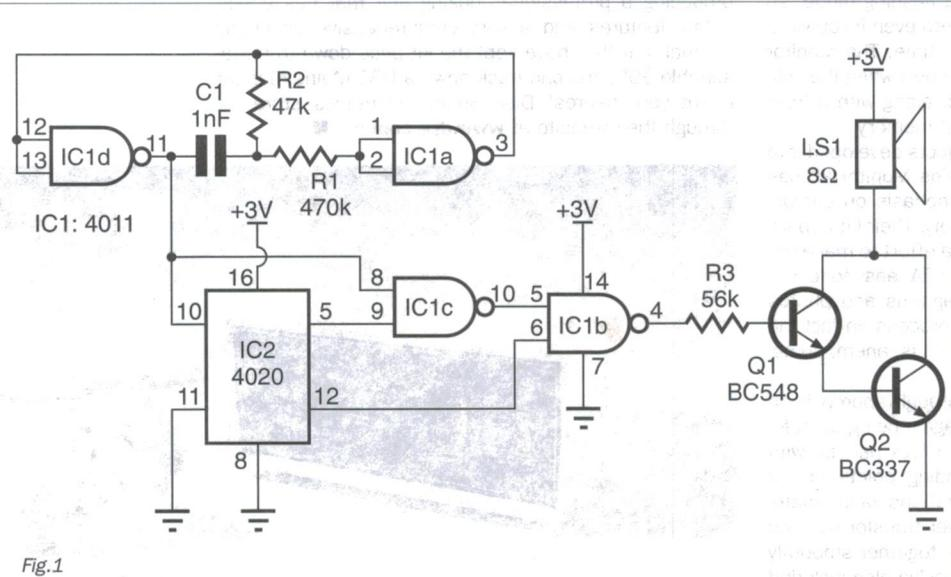

Fig. 1
As you can see from Fig.1, the original circuit used a type 6A6 class 'B' dual triode as a regenerative detector, R-C coupled to one stage of audio. The HT was from a 45 volt light-duty battery built into the cabinet, and the consumption was so slight that the battery deterioration resulted in only slightly less than shelf life. The valve heater was powered by a low current 6.3V transformer.
In fact the circuit we're going to use is not the original of Fig.1, but a revised version as shown in Fig.2, which is designed to overcome some anticipated component problems. It's still very similar, though, and essentially the same set adapted to use the components available nowadays.
The basic sound is a 1kHz tone, generated by an oscillator made up of two 4011 CMOS NAND gates (IC1a and d) each with their inputs wired together so that they act as inverters — see Fig.1. The direct connection between gates a and
12. Of course, there is no reason why you cannot swap the connections around and obtain a few interesting effects. Connecting pin 12 of IC2 to pin 6 of IC1 (as in Fig.1) but then connecting the lower frequency of pin 14 to pin 9 gave us a sophisticated syncopated beat!